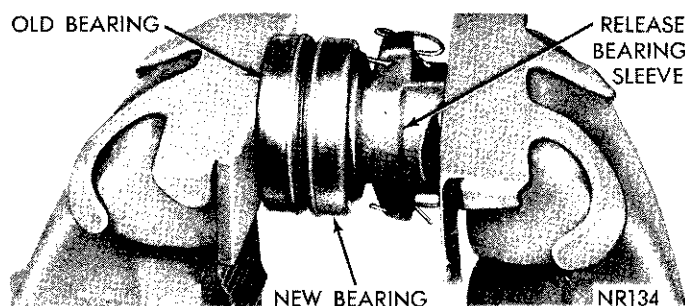

Fig. 8—Replacing Clutch Release Bearing
(1) Position new bearing on sleeve and place old bearing against face of new bearing.
(2) Support parts in a vise and carefully press new bearing on sleeve (Fig. 8). **Make certain bearing is seated on shoulder of bearing sleeve. Rotate bearings as they are pressed together.**